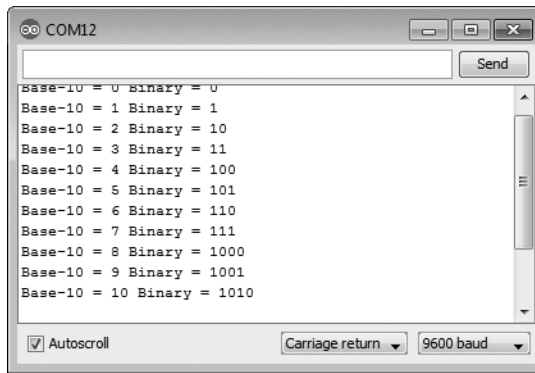

Figure 6-3: Output from Listing 6-2
We display byte variables as base-10 numbers using DEC ❶ or as binary numbers using BIN ❷ as part of the Serial.print() function. After uploading the sketch, you should see output in the Serial Monitor similar to that shown in Figure 6-3.